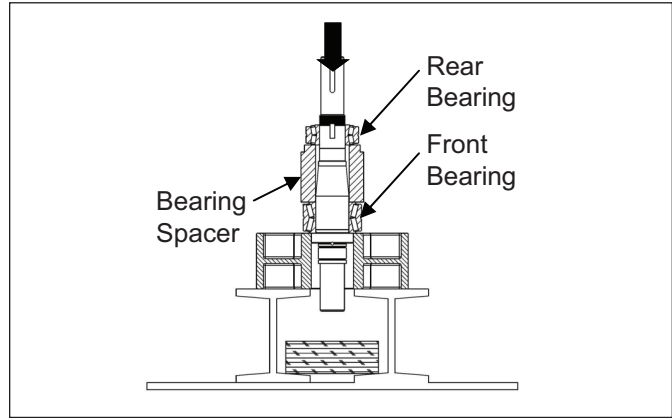

Figure 44. Removing Bearings and Sleeve from Shaft
6. Using a press and a V-block, remove the front and rear bearings along with the bearing spacer. To prevent damage to the shafts make sure that both ends are protected (Figure 44). Reference Table 5 for the required force (in tons) needed to press the bearings off the shafts.